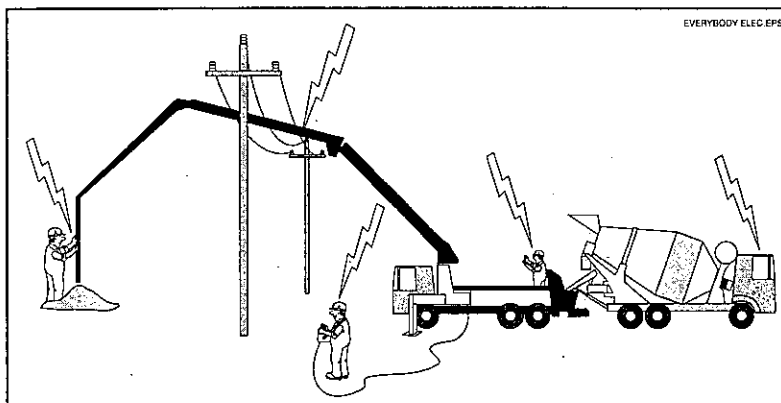

Figure 73
- ⚠ WARNING! Electrocutation hazard!** If the pump or boom becomes energized with high voltage and you are in contact with **any** part of it, you are at **risk of electrocution!** You should monitor the movement of the boom and **alert the operator** if the boom comes within 17 feet of an electrical wire. (See Figure 73.)